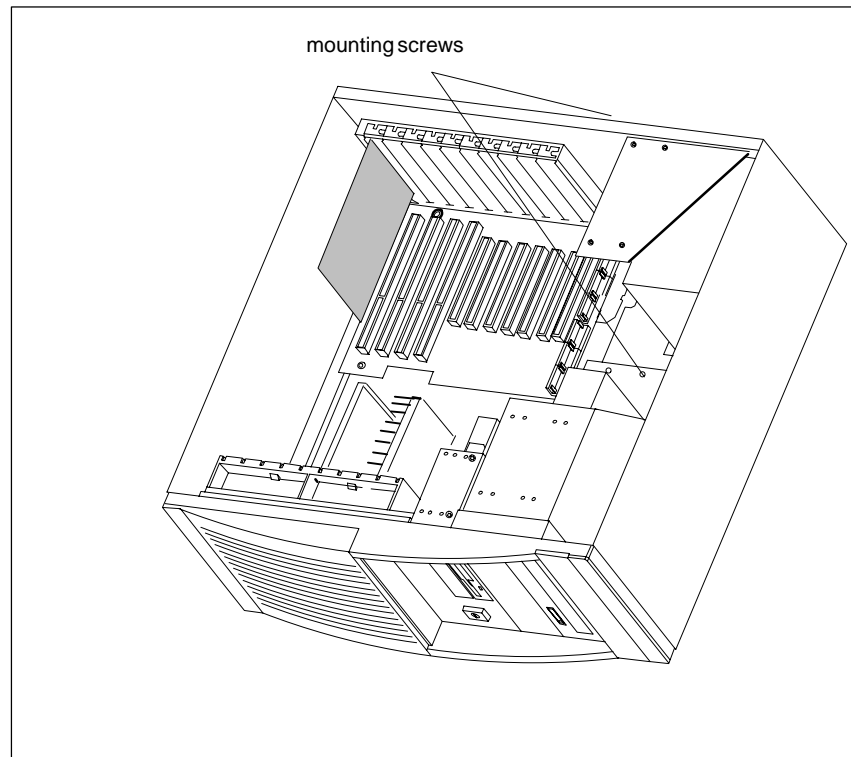

Figure 1-8 Removing and Installing Hard Disk Drives
- The support is mounted with five or six screws (see Figure 1-8). Four or five of them are directly accessible at the back of the system unit. The third screw can only be reached inside the unit from the top. The hard disk drive must be fixed with screws at the upper and lower end of the support.